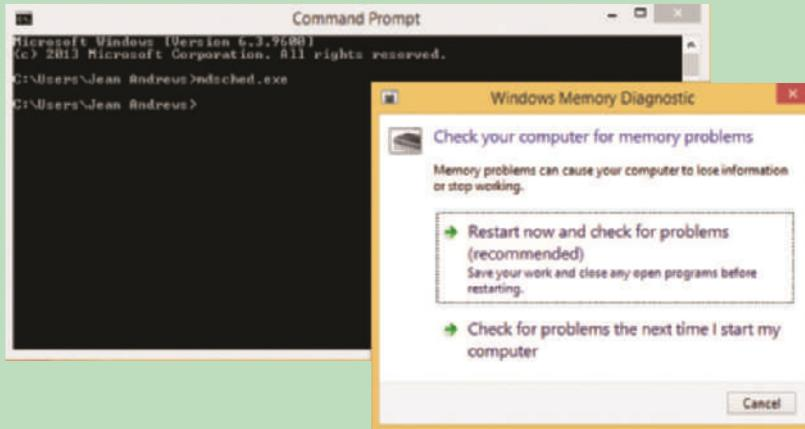

Figure 5-33 Use the mdsched.exe command to test memory
- ▲ **Use the mdsched.exe command from within Windows.** To open a command prompt window from the Windows 8 desktop, right-click **Start** and click **Command Prompt**. (In Windows 7, click **Start**, enter **command** or **cmd**, and press **Enter**.) In the command prompt window, enter **mdsched.exe** and press **Enter**. A dialog box appears (see Figure 5-33) asking if you want to run the test now or on the next restart.